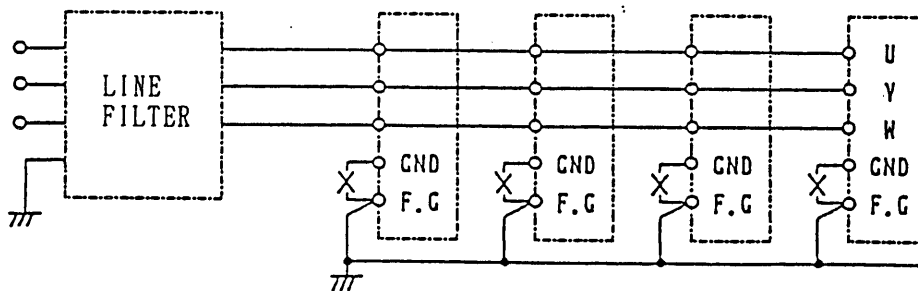

Figure 2-3
- o When a multiple number of units are connected in parallel, the leak current from the built-in line filters increases by the number of units. If the increased leak current is not allowable, make open between the F.G and GND terminals and connect an extra line filter as shown in Figure 2-3.